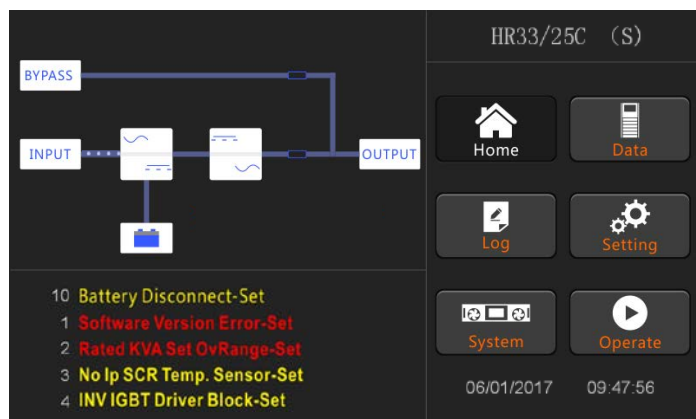

Fig.5-1 Interface of rectifier starting
- (4) The LCD home interface shows that the system rectifier is working and the indicator flashes, as shown in Figure 5.1.